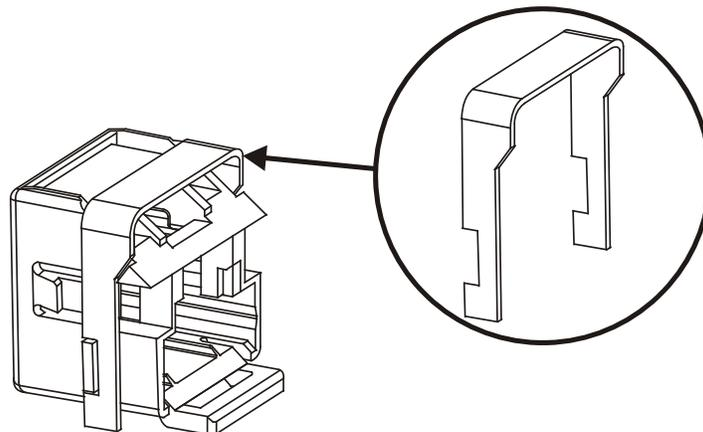

Figure 5 — Retention Clip Shown on Module
3. Punch down the eight conductors of the cable onto the information outlet by following the outlet installation instructions. Clip a retention clip (32 included) near the jack opening such that the triangular cuts and the rectangular cuts in the plastic clip align with the proper features on the module. This clip helps prevent the modules from rotating in their openings. Figure 5 shows the location of a retention clip on a module.